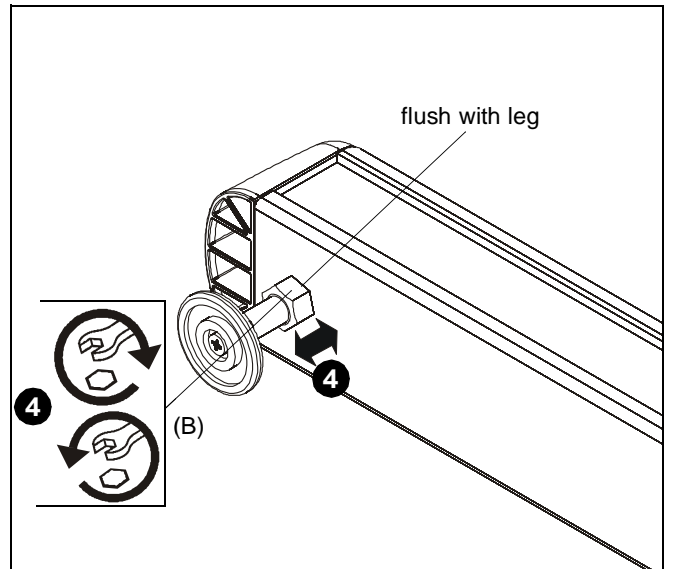

Figure 4
- After all feet (A) have been installed, use hex nuts (B) to adjust height level of each leg. (See Figure 4)
IMPORTANT ! : Hex nuts (B) must be flush with bottom of the legs of cart! (See Figure 4)